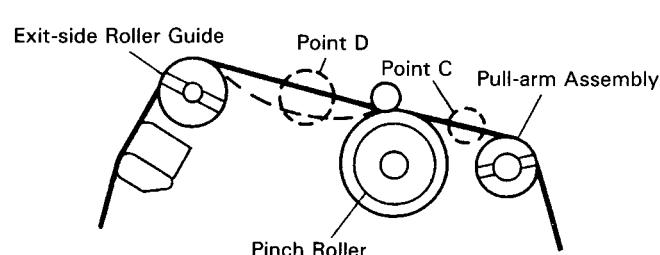

Fig. 3-5
- After confirming that the tape is not twisted at Point C in Fig. 3-5, check the tape for twisting or bulging at Point D. (Normal bulge : no more than 0.5mm)